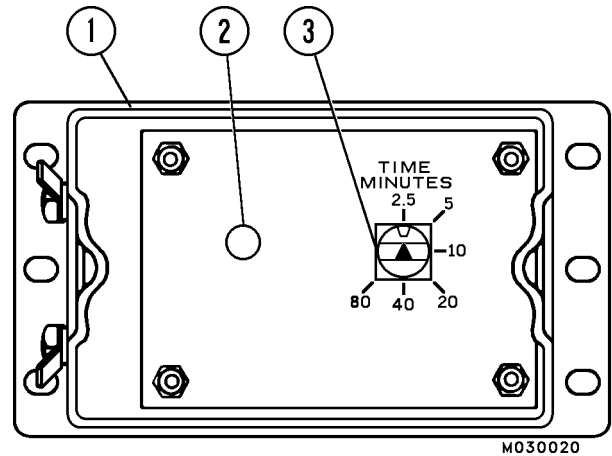

FIGURE 42-8. TIMER (TOP COVER REMOVED)
2. Adjust timer selector (3, Figure 42-8) to 5 minute interval setting.
The timer is factory set for a nominal 2.5 minute (off time) interval. Dwell time is approximately 1 minute, 15 seconds. A longer interval (off time) is obtained by turning the selector knob (3, Figure 42-8) to the desired position.